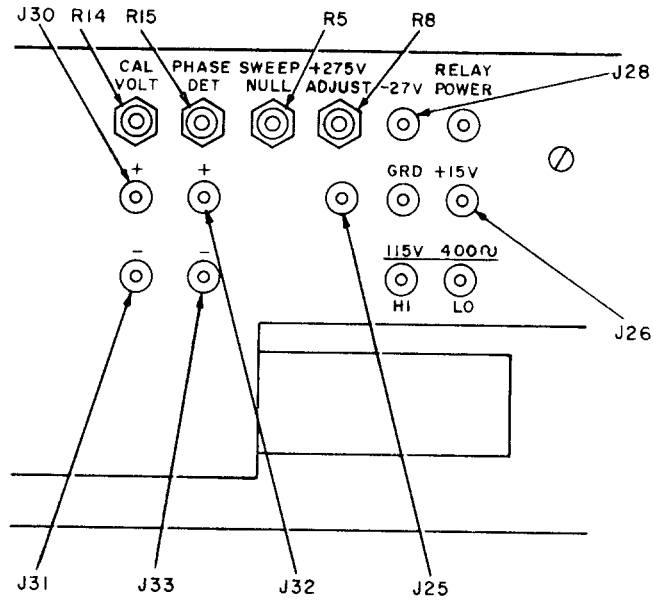

Figure 1. Electronic equipment maintenance kit MK-744/APN-158 - test point and adjustment locations
(1) Turn UUT **TEST FUNCTION SELECTOR** switch to **CAL**.
(2) Connect dc voltmeter (A1) to UUT **CAL VOLT** + and – (located on the right side of UUT chassis). Dc voltmeter will indicate between 3.996 and 4.004 volts. If not, perform b below.
**b. Adjustments.** Adjust R14 (fig. 1) until dc voltmeter indicates +4 volts. (R)
(1) Turn UUT **SWEEP GENERATOR TEST SELECTOR** switch to **X1**, **TEST RANGE SELECTOR** switch to **150**, and **TEST FUNCTION SELECTOR** switch to **SWEEP GEN**.
(2) Connect dc voltmeter (A2) to UUT **PHASE DET** + and – observing polarity. Dc voltmeter indication will be between 1.99 and 2.01 volts. If not, perform b below.
**b. Adjustments.** Adjust R15 (fig. 1) until dc voltmeter indicates 2.0 volts. (R)
(2) Observe that **TEST METER** indicates in green area and **X10** light blinks.
(3) Turn **METER FUNCTION** switch to **TEST (X1)**. **TEST METER** will indicate **NULL** (center scale plus one-half minor division). If not, perform **b** below.
**b. Adjustments.** Adjust R5 (fig. 1) until **TEST METER** indicates **NULL** (R).